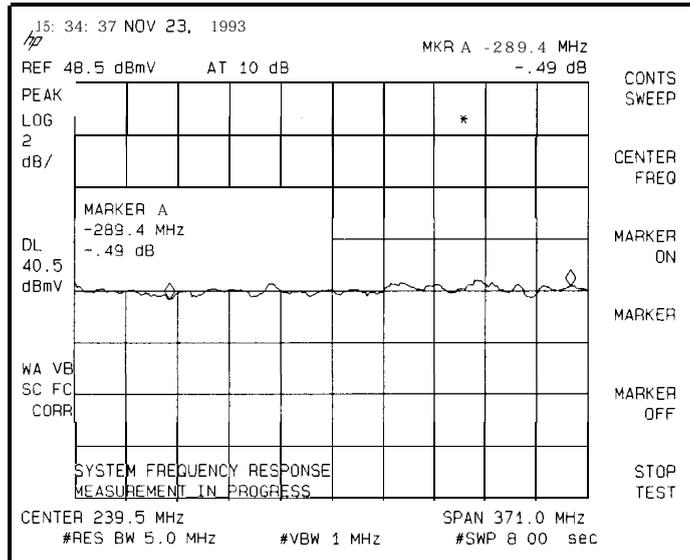

Figure 5-8. System Frequency Response
3. To align the frequency of the measurement trace with that of the reference trace, press CENTER FREQ , and use the  (step up) and  (step down) keys (do not use the data knob) to minimize amplitude ripple that may occur over the entire trace (small variations spaced by 6 MHz). Best results occur when the keys are pressed when the sweep is in the last division to the right. This adjustment is not necessary unless the ripple is annoying or your measurement must be very precise. At this point, you can use the marker functions to evaluate the data while the measurement is in progress. See Figure 5-8.